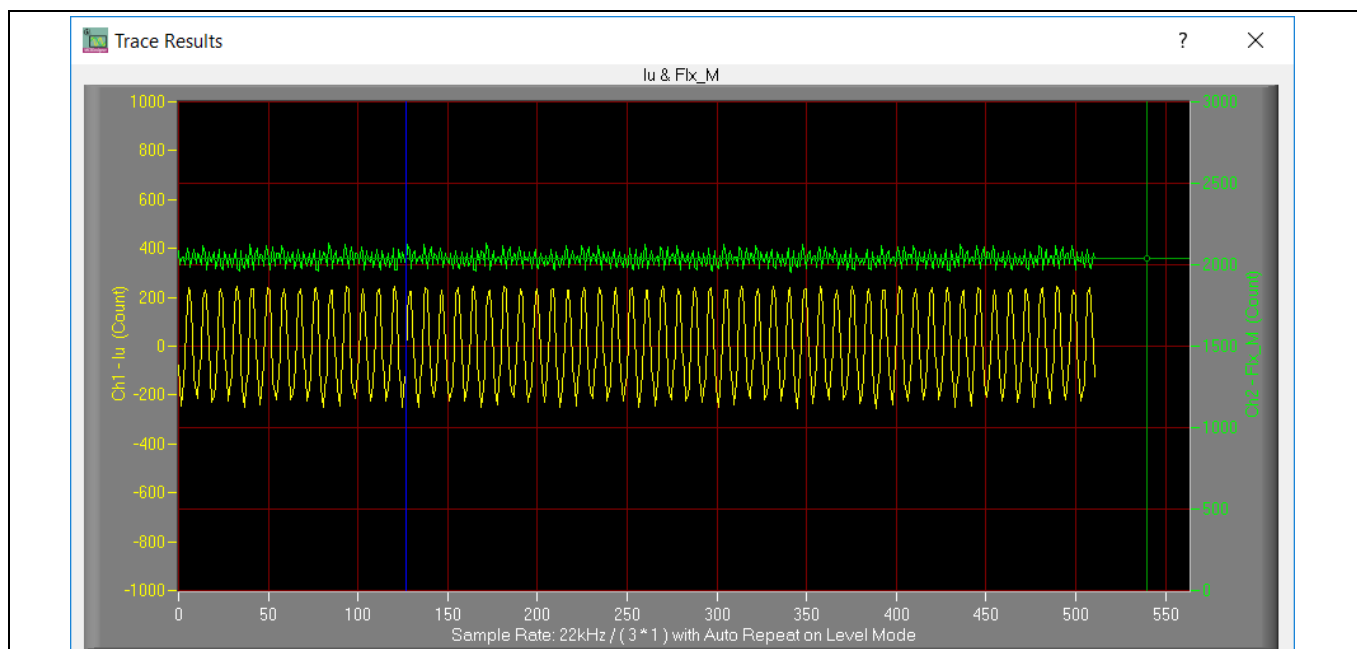

Figure 10 Trace waveform for I_u & Flx_M at 50% speed
3. Set TargetSpeed to about 50% of maximum speed, start "Iu & Flx_M" trace with "Auto Repeat on Level," see Figure 10. Flx_M is good within the range of 2000~2500 (rated value is 2048), and must be steady and DC-like.